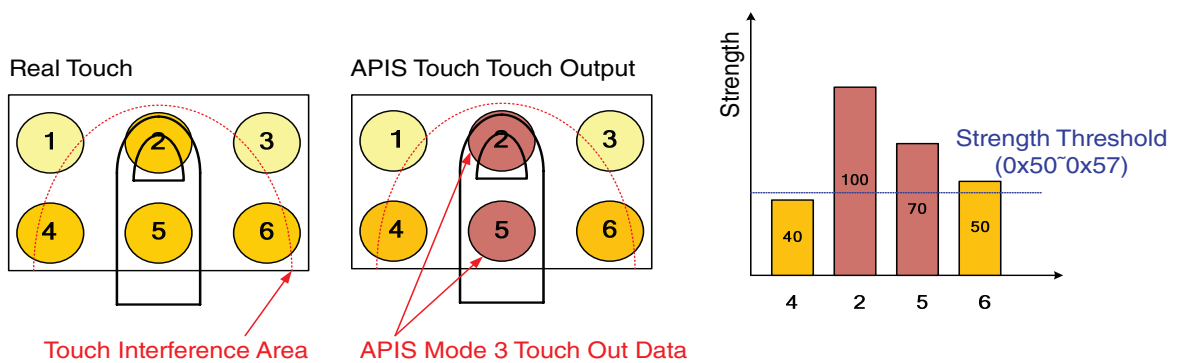

Figure 5: Operation of APIS Mode 3
**APIS mode 3:** Reports two strongest outputs (suitable for multi-touch applications) (Figure 5).